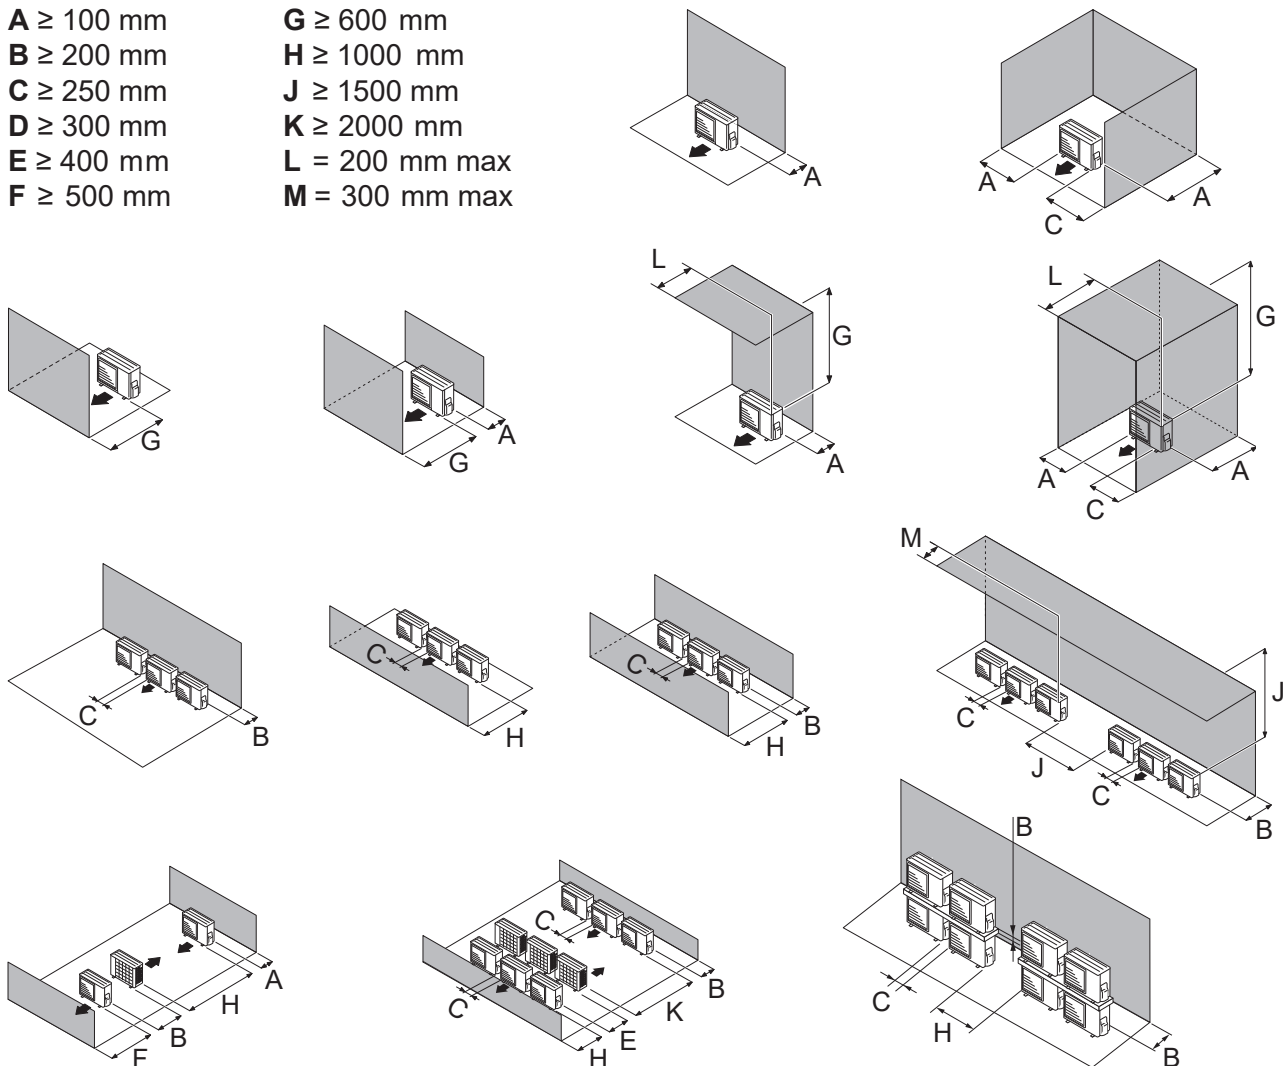

fig. 13 - Minimum installation clearances around the outdoor unit (model 5, 6 & 8)
- The unit must be easily accessible for future installation and maintenance work (fig. 13).
- Nothing should obstruct the air circulation through the evaporator and out from the fan (fig. 13).